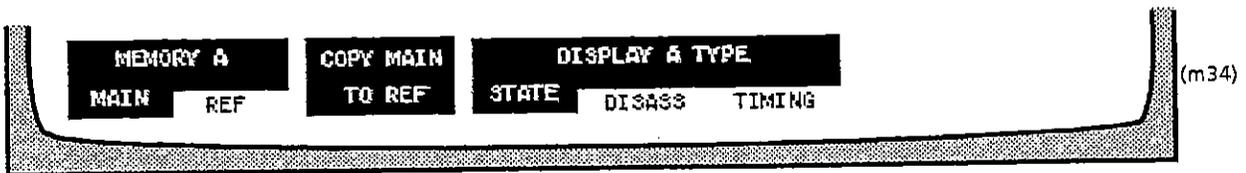

Fig. 7-20
- ▶ Select the SPECIFY function for the display required (A or B). (Fig. 7-20 shows display A by way of example).